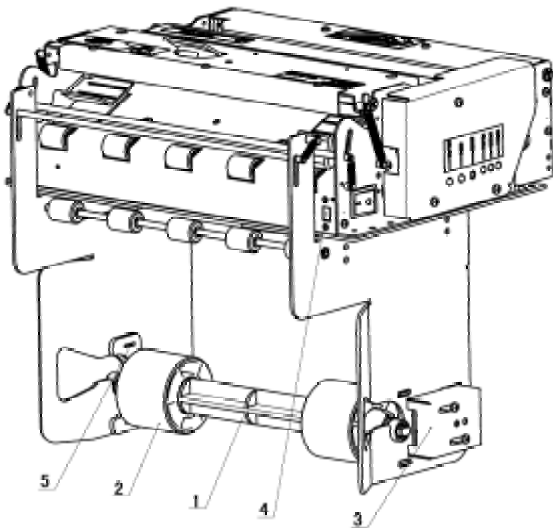

Figure 3.5.1 Vertical paper roll holder appearance
□ Users can adjust the position of paper near end sensor to control the amount of remaining paper according to different paper roll diameter (see figure 3.5.1 and 3.5.2). To adjust the sensor, please loose those two fixing screws and move the positioning board up or down to the right position along the slide track then tighten the screws.